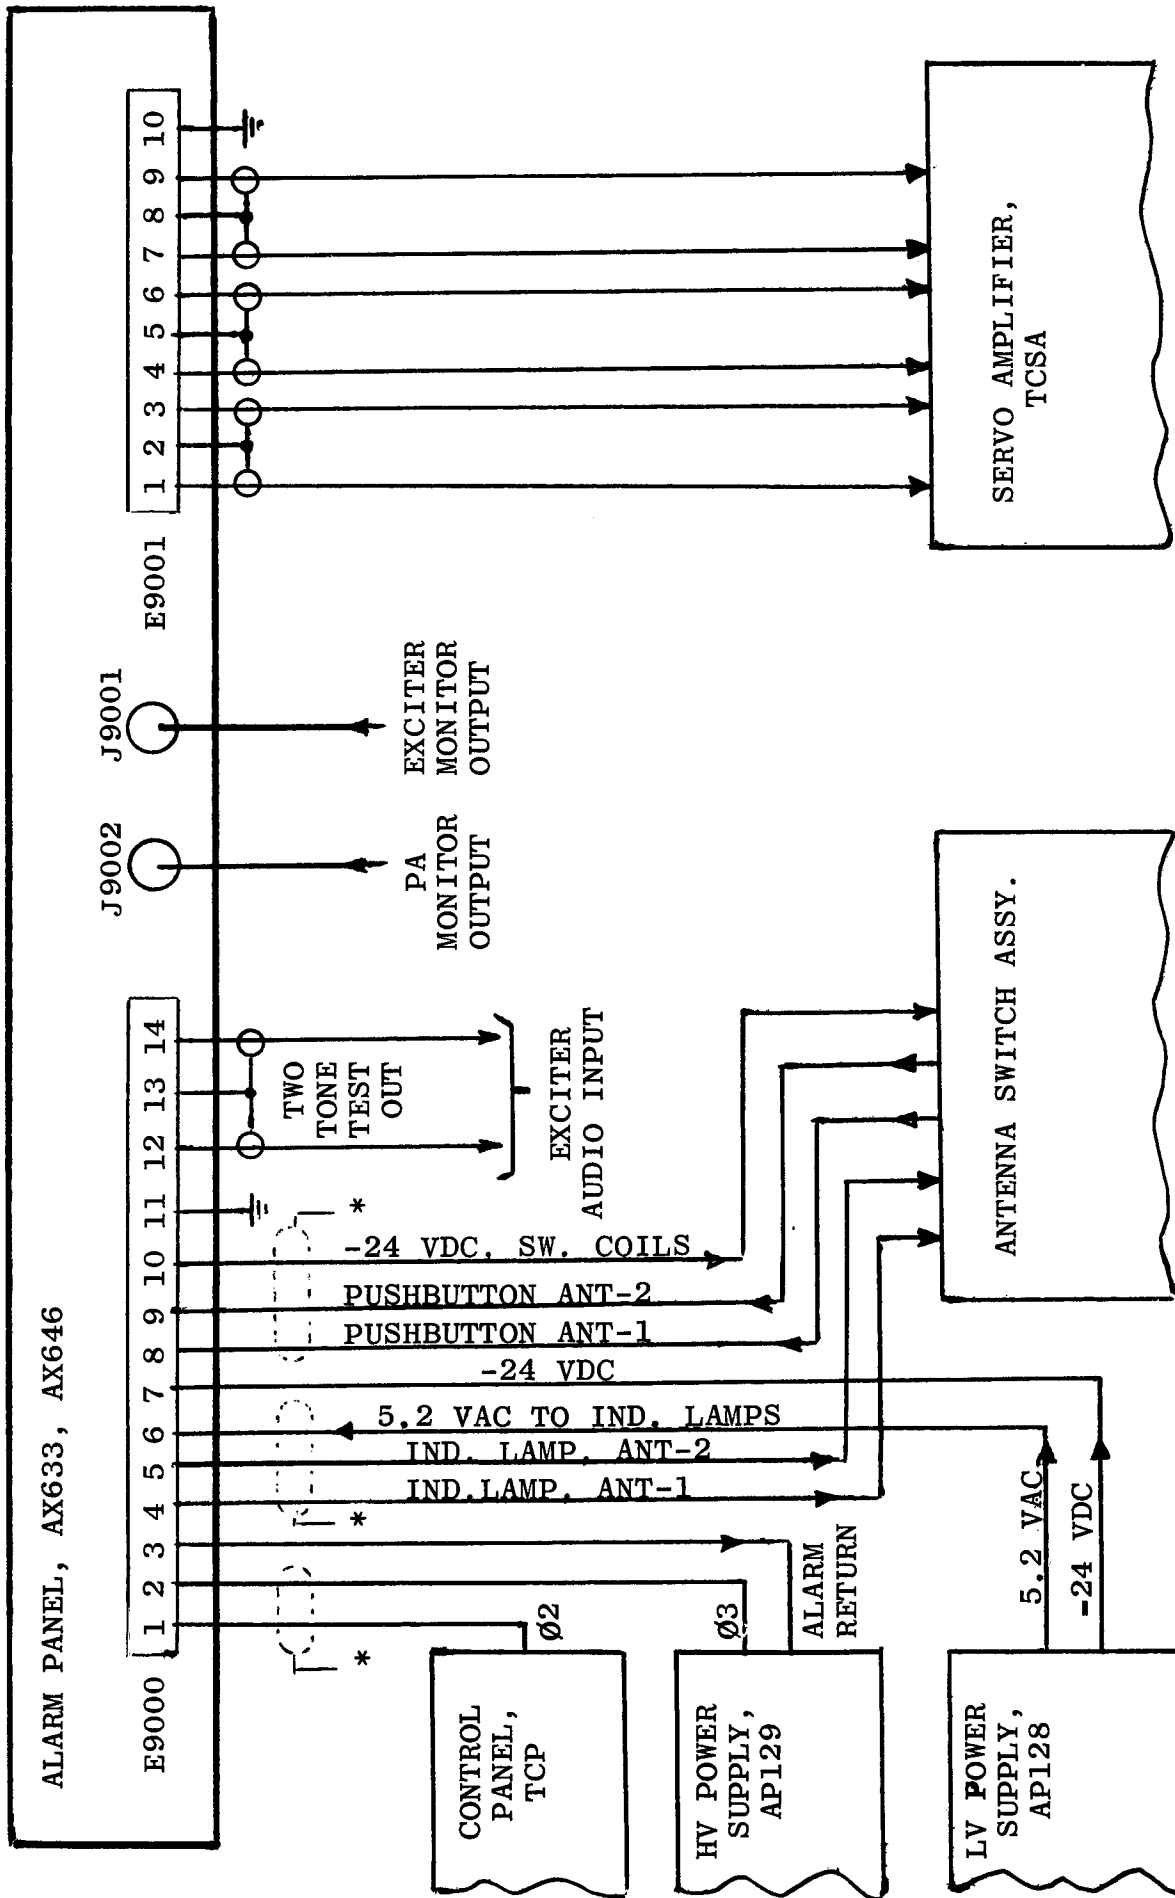

Figure 2-1. Typical Interconnection Diagram
b. **INTERCONNECTIONS** - All necessary interconnections are made at the rear-chassis mounted terminal boards E9000, E9001, connectors J9001 and J9002. See figure 2-1 for typical interconnection details.